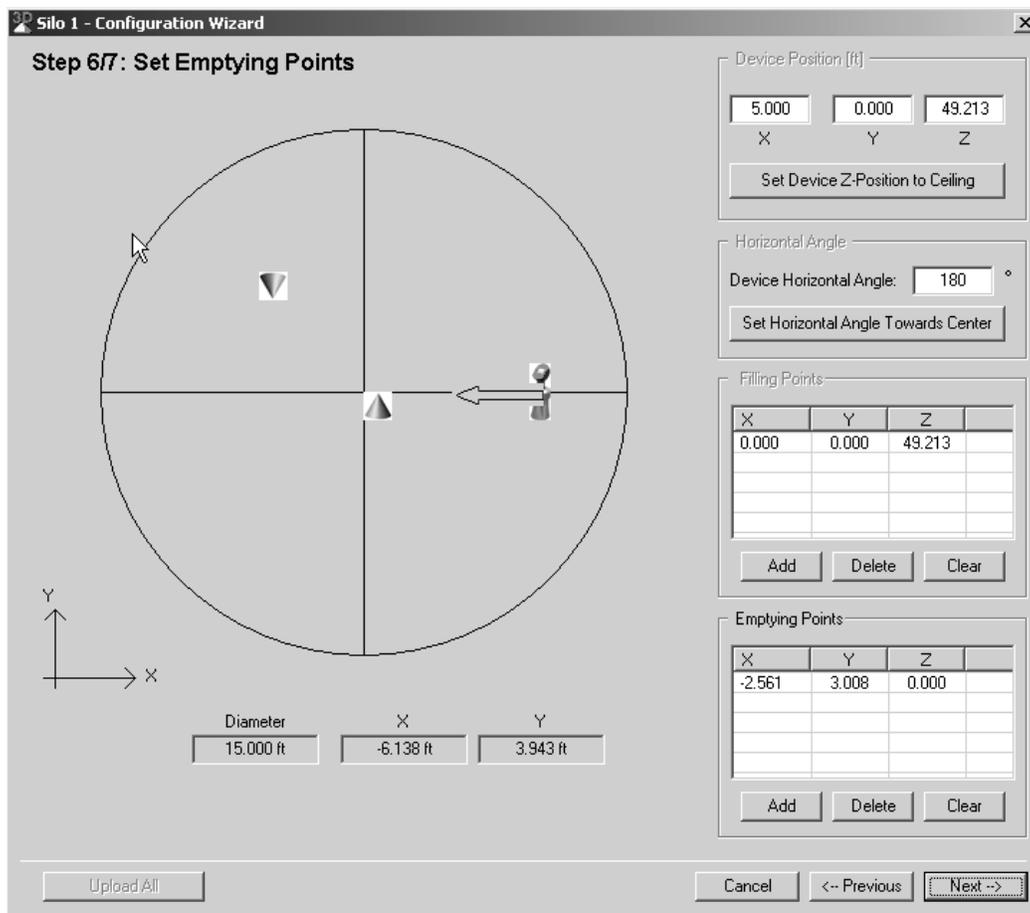

Figure 45 Configuration Wizard – Step 6/7: Set Emptying Points
Step 6/7 (Figure 45) configures the emptying output points in the vessel. You can set more than one emptying point.